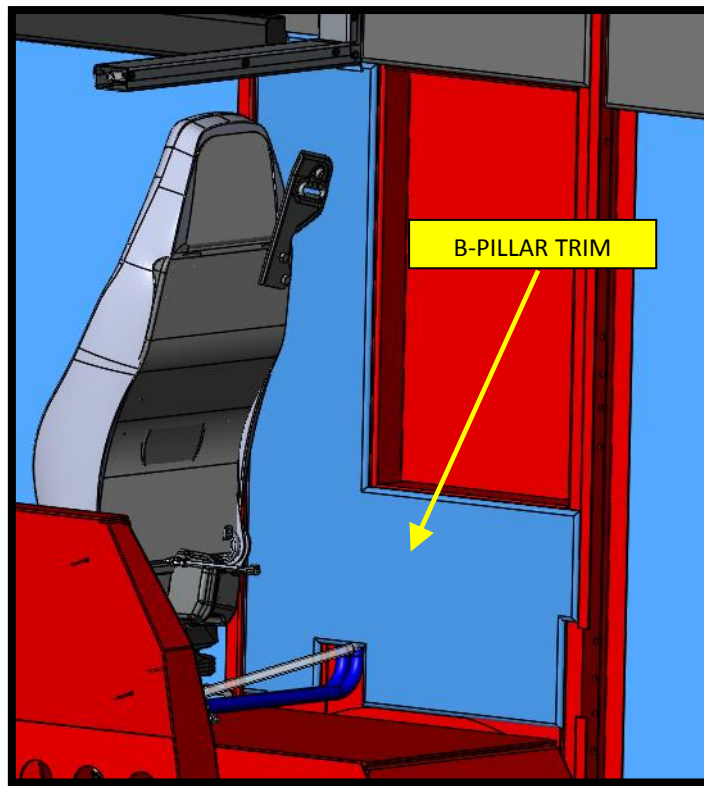

**FIG. 5-2**
9. Remove Heater hose cover which is located behind officer seat and retain along with all hardware for later reinstallation. It may be necessary to remove seats and other equipment to gain access to heater hose cover. Refer to FIG. 5-2.